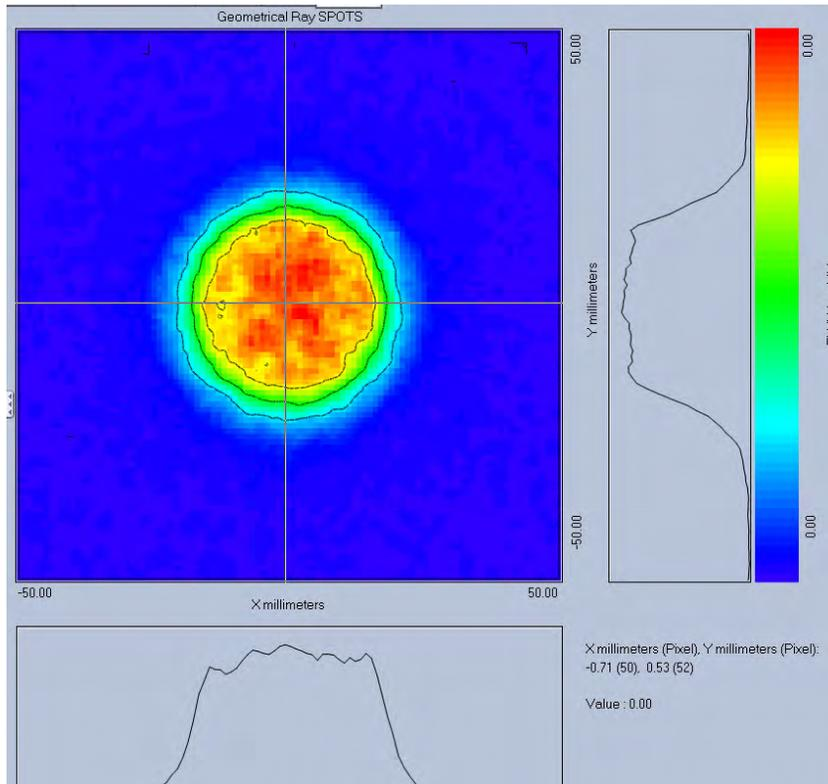

Figure 91 Results of averaged plot
- 15 Compare the results of the averaged data with the previous irradiance data. See Figure 91.